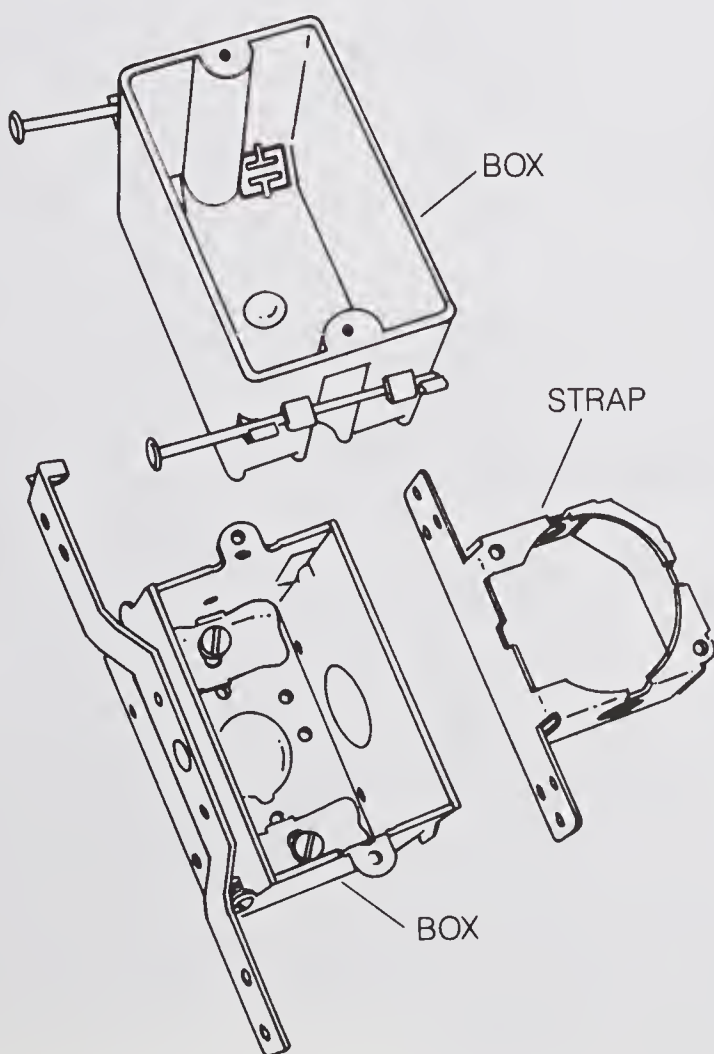
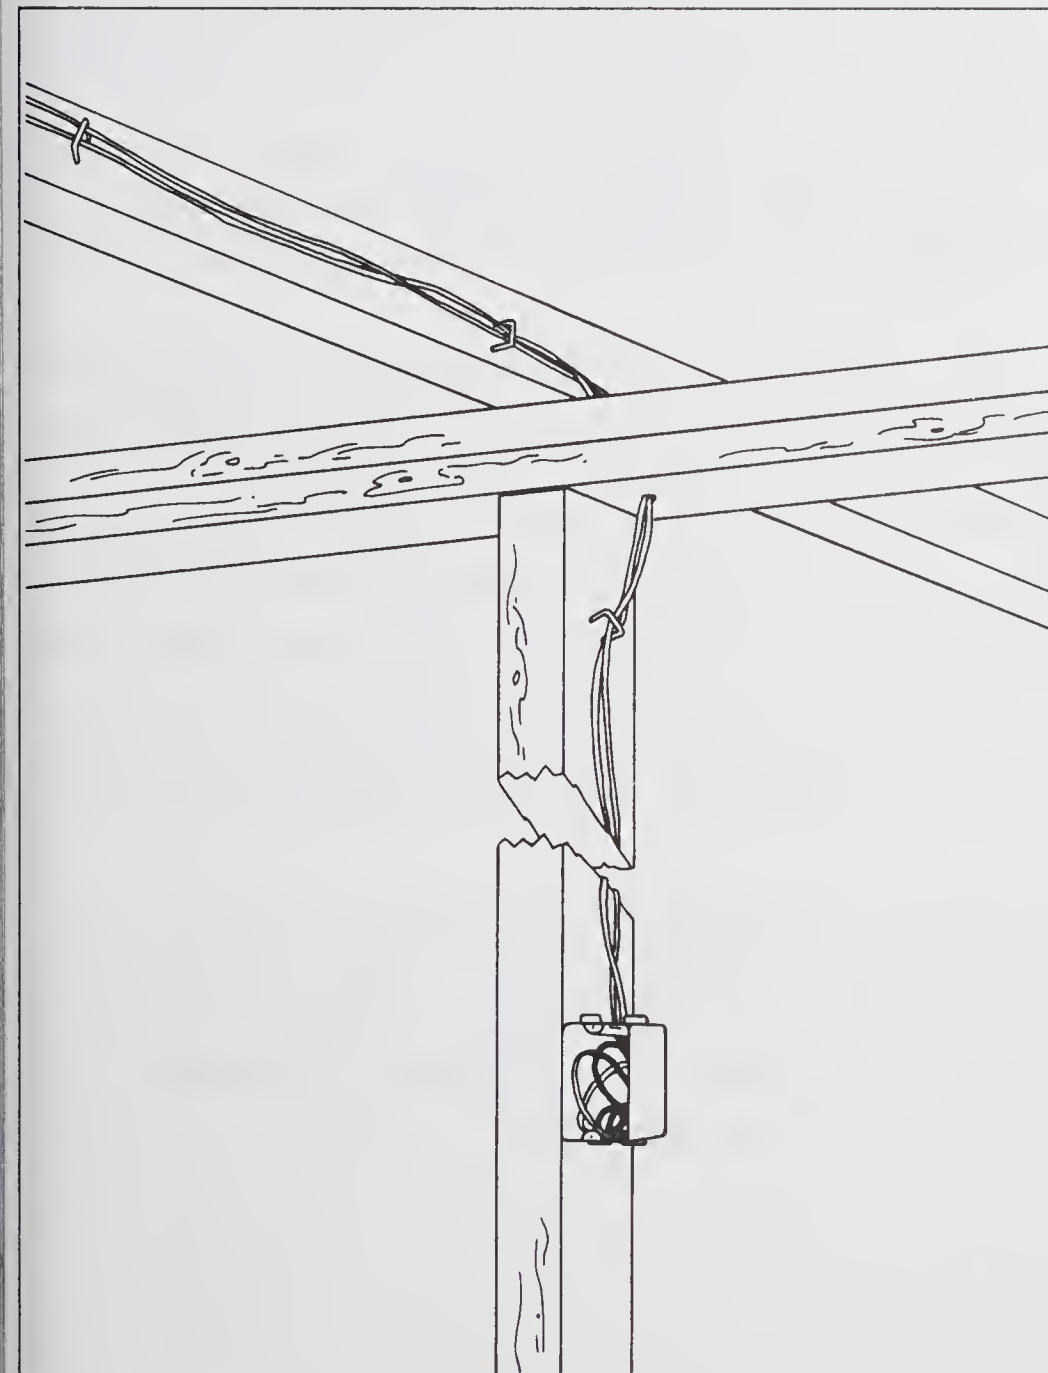
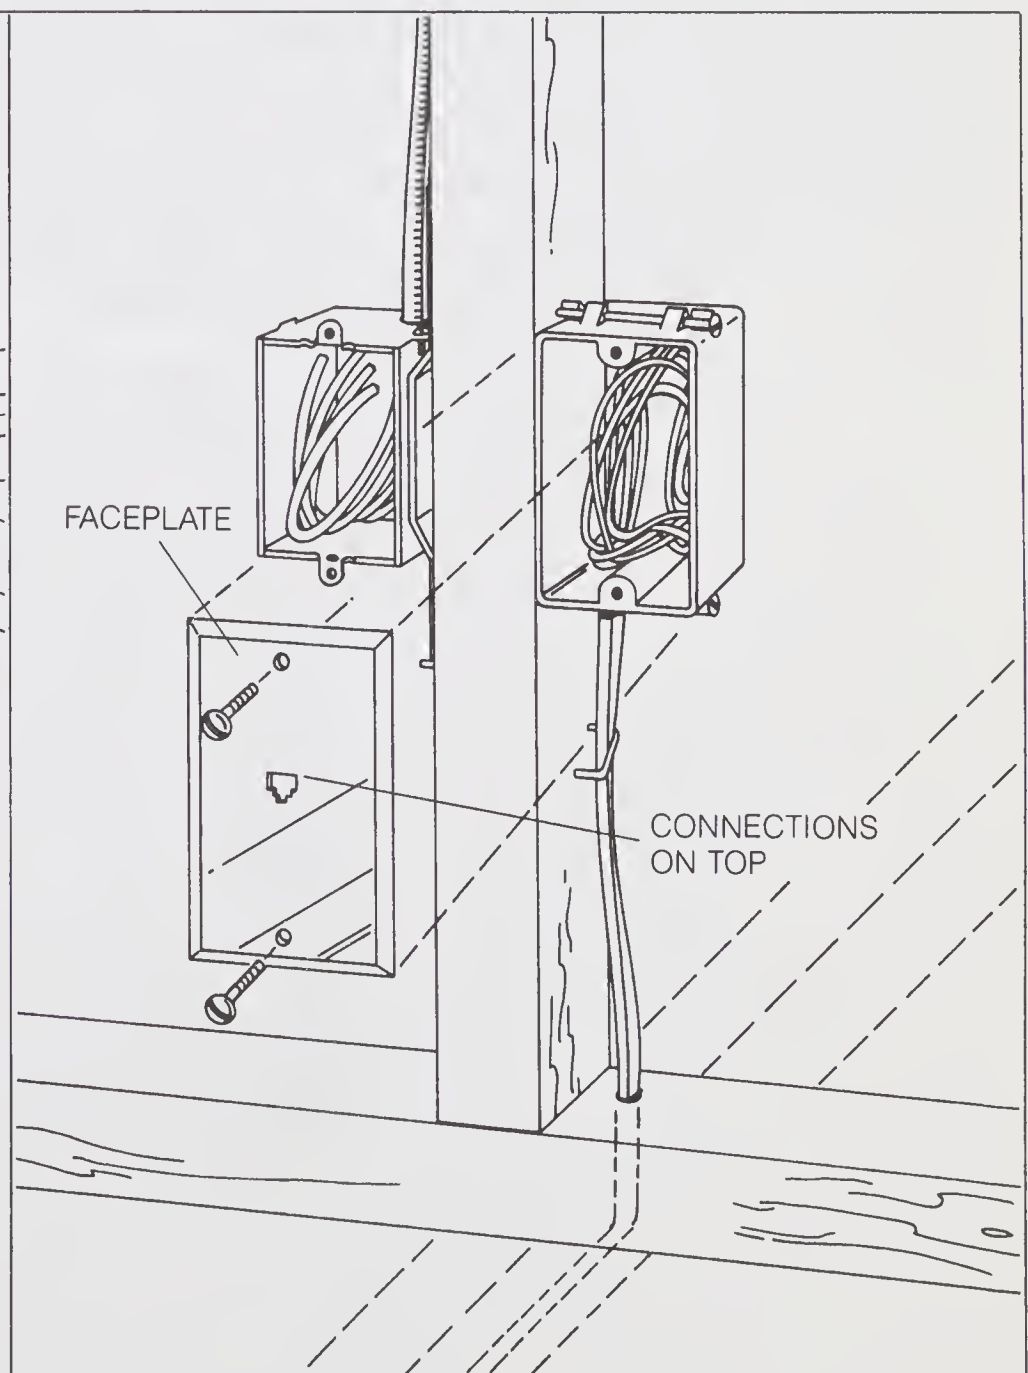

Figure 9-5.
Figure 9-12.
Figure 9-13.
This wall outlet is preferred by some because it is round and stylish. Note that the round modular outlet will not fit in a standard electrical type wall box because it will not cover the box cutout opening nor will the bracket match the screw mounting holes of the wall box. A special mounting strap (*Figure 9-5*) is available (Western Electric 63B or Suttle 63A) and should be mounted to a stud during rough-in if an in-wall mounting plate is desired. If the mounting strap is not used, the round modular outlet must be mounted directly in the wall during the final installation of outlets. Installation will require a 1 $\frac{3}{8}$ " hole in the wall for the body of the outlet, with the outlet mounting ring being fastened with screws and plastic screw anchors in drywall and with screws in plaster/lath or wood paneling.
This outlet fits into a standard type electrical wall box (Figure 9-5) and may also serve as a terminal block for wire splicing of cable that runs to the next outlet.
This wall outlet is to be used where a telephone is to be mounted on a wall. This outlet mounts into a standard type electrical wall box (Figure 9-5). This outlet may also serve as a terminal block for wire splicing of cable runs to the next outlet.
Standard Type Electrical Wall Box (Figure 9-5)
For a rectangular outlet, attach an electrical box (*Figure 9-5*) to the stud (vertical 2×4) at the same distance from the floor as the electrician has set the electrical boxes. This distance will vary by locale and by local building code but usually will be 12" to 18" from the rough floor. The telephone outlet box may be located on a common stud adjacent to an electrical outlet box (*Figure 9-13*) or on a stud by itself. Mount the box such that it protrudes forward from the stud the thickness of the wall covering to be installed later. Use as a guide the same dimension as the electrician used for mounting the electrical outlet and switch boxes.
Start the telephone cable from the hole in the wall for the telephone service entrance. Push the cable through the hole and leave 18" of cable on the outside wall (*Figure 9-10c*). Route the cable vertically (up or down) along a stud to the plate. The plate on the bottom of the wall will be one 2" × 4" stud and on the wall top a double 2" × 4" stud as shown in *Figure 9-13* and *Figure 9-12* respectively. Drill a $\frac{3}{8}$ " hole in the plate as necessary, run the telephone cable along the joist (ceiling or floor depending on your type of installation) working toward the next outlet. Locate the cable such that it will not be disturbed (cut, torn, or broken) by workman later as they finish the structure. Route the cable along the joist wherever possible, not across them to keep the cable protected. Where the cable must cross joists, you may want to drill holes in joists to make the crossing run. Drill the necessary holes in the plates to allow a drop from the attic or a rise from underneath to the next outlet.
A typical attic distribution run is shown in *Figure 9-12*. A drop to the basement is shown in *Figure 9-13*. Use romax electrical cable staples to secure the phone cable to studs and joists locating one every 3 to 4 feet of cable. Drive the staple in just far enough to hold the cable in place, but leave ample space between the staple and the stud to allow the cable to be pulled out for later rework or troubleshooting. A typical installation is shown in *Figure 9-12*. From the box run the cable back to the plate hole and continue on to the next outlet in the same manner stapling as you go. Take the excess slack out of the cable as you complete your run.
You must complete the interior installation of all outlets and finish mounting faceplates and wall telephone plates before the telephone company installs the protector and connects the service to the central office. Start on leg A of the loop of your plan and work through the loop circuits to the first outlet. Install any mounting plate, the outlet body, a faceplate and proceed on to the next until all outlets are connected and installed in place. An example of installing a faceplate is shown in *Figure 9-13*.
- G. Mount modular jacks so the notch is at the bottom and the brass rail contacts are at the top (See *Figure 9-13*).
If the round modular outlet will not be mounted in the mounting strap but directly into the wall, remove the wall plate and outlet body from the metal mounting plate. Mount the plate to the wall with plastic anchors and screws prior to cutting the 1 $\frac{3}{8}$ " opening in the wall in the center of the bracket. Position the plate to give the modular jack the proper vertical orientation as shown in *Figure 9-13*.